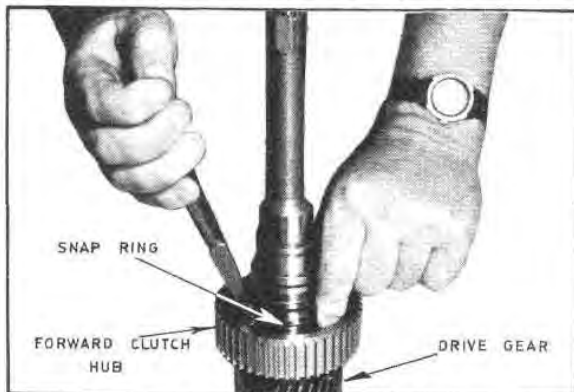

Fig. G33 — Removing the Clutch Hub Snap Ring
18. If it is necessary to replace the drive gear or clutch hub, remove the clutch hub by removing the snap ring retaining the clutch hub on the drive gear (Figure G33); place the drive gear and clutch hub on an arbor press with the front end of the drive